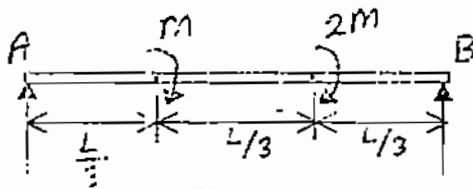
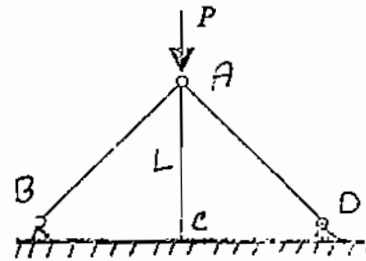

Figure 3
Figure 4
5. A simply supported beam AB of uniform flexural rigidity EI carries at its third-points two concentrated couples of moments M and 2M as shown in Figure 3. Using the moment-area method find the rotations θ_1 and θ_2 of the tangents at A and B respectively. (8)
6. A simply supported beam AB of uniform flexural rigidity EI carries a concentrated load P at its center and a uniformly distributed load of w_0 /unit length along the entire length. Using Castigliano's theorem, find the deflection at the center of the beam. (7)
7. The bars AB, AC and AD are slender steel rods of same flexural rigidity EI. They have pinned ends at A, B and D and fixed at C. Calculate the critical value of the vertical load P that can be applied at A, so that the members do not buckle (refer to Figure 4). (10)